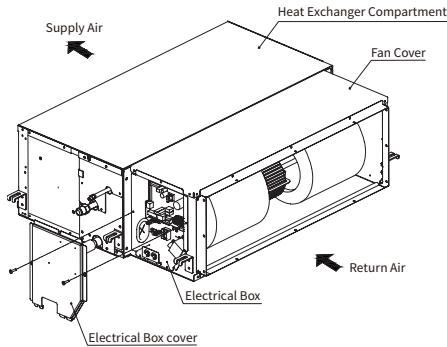

Fig.4.2
(1) Remove the E-BOX cover (2 screws) (Fig.4.2).